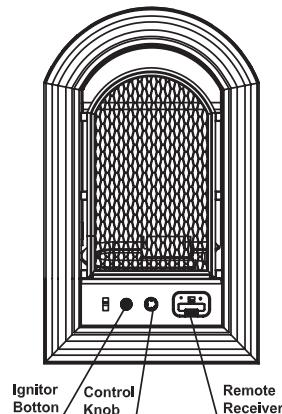

Figure 24 - Ignitor Button and Control Knob Locations
4. Wait five (5) minutes to clear out any gas. Then smell for gas around heater and near the floor. If you smell gas, STOP! Follow "B" in the safety information above. If you do not smell gas, go to the next step.
5. Turn control knob counterclockwise  to the PILOT position. Press in control knob for five (5) seconds (see Figure 24).